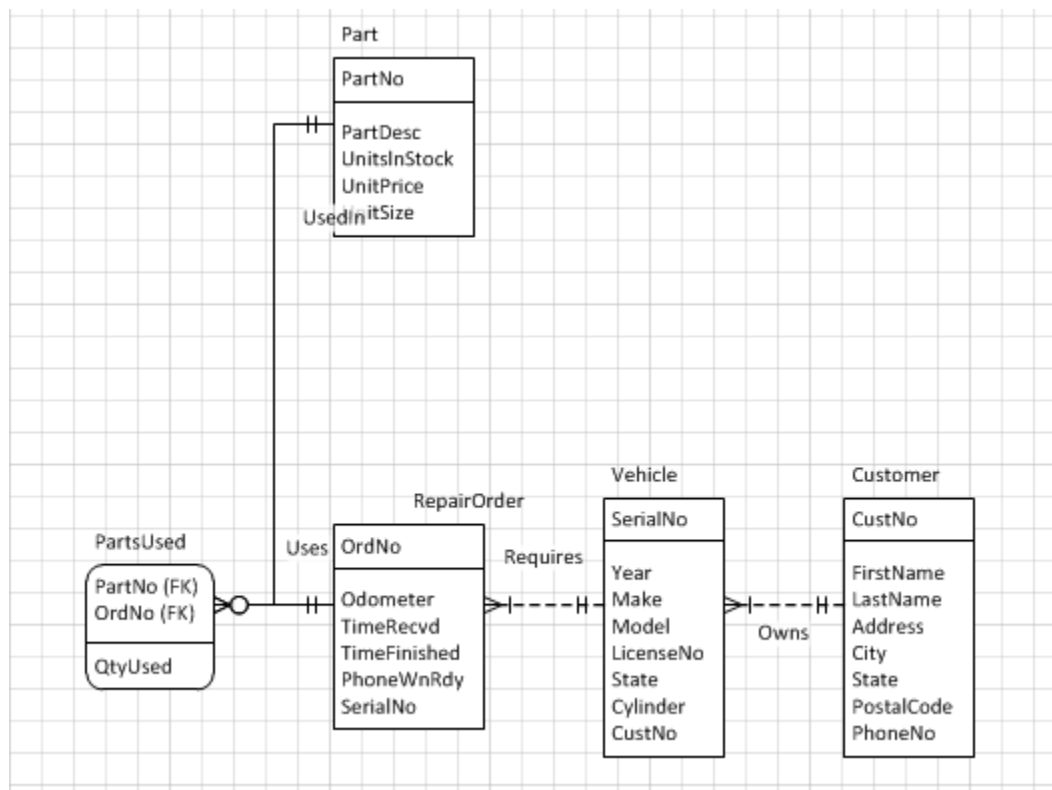

Figure 46: Automated Layout for the Auto Repair ERD
2. View the Result: After clicking the **OK** (or **Apply**) button, you can view the new layout (Figure 46). You might want to change the zooming level to 50% or 75% to see the entire ERD. If you are not satisfied, you can undo the changes using the **Edit** menu. Save the diagram when you are finished viewing it.